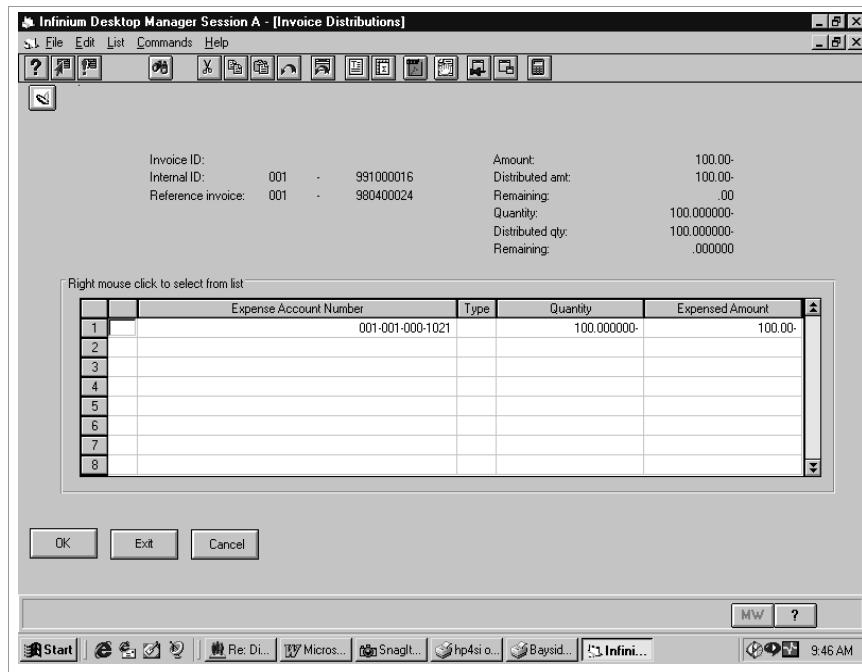

Figure 8-7: Invoice Distributions screen
- 11 To view the purchase order invoice's expense distributions, select a ship to line at the Invoice POs and Receipts screen. Select **Expense Distributions** or type **12** in the *Opt* column and press Enter. The system displays a screen similar to Figure 8-7.